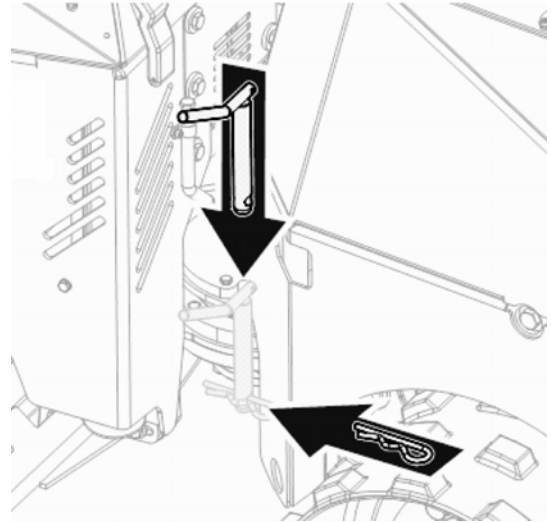

Figure 3. Locking Articulation Joint
3. Lock the articulation joint (Figure 3).